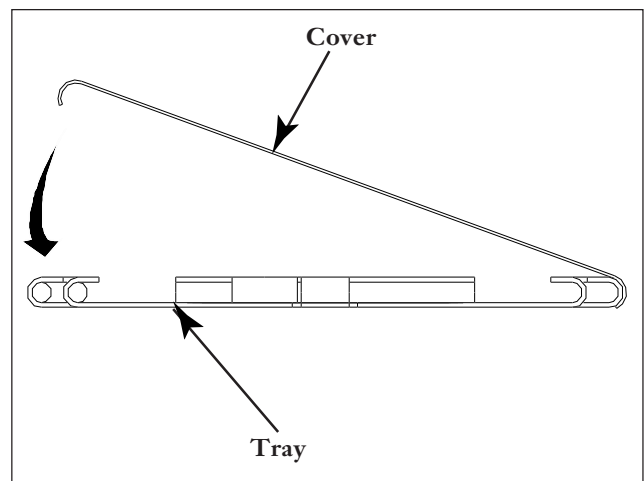

Figure 10
11.1 Make sure all fibers are below the fiber retaining tabs and snap the cover into place (Figure 10).